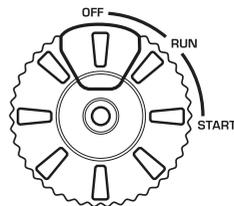

Fig. 2
- 5.2 For electric start, press the red button on the multifunctional engine switch (fig. 2)
6. After starting the engine, turn the Multifunctional engine switch to the “RUN” position (fig. 2).